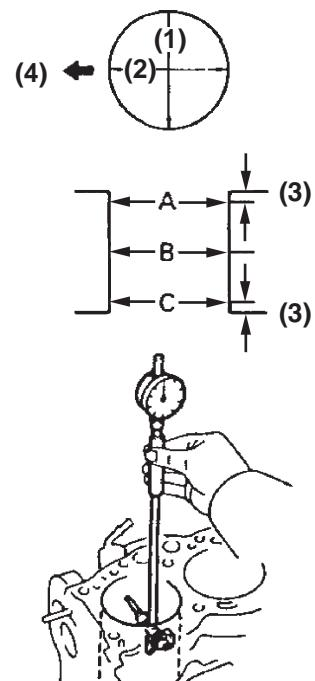

Figure 5-103
5. Measure the cylinder bore diameter at points A, B and C in the thrust (Figure 5-103, (1)) and axial directions (Figure 5-103, (2)), using a cylinder gauge.